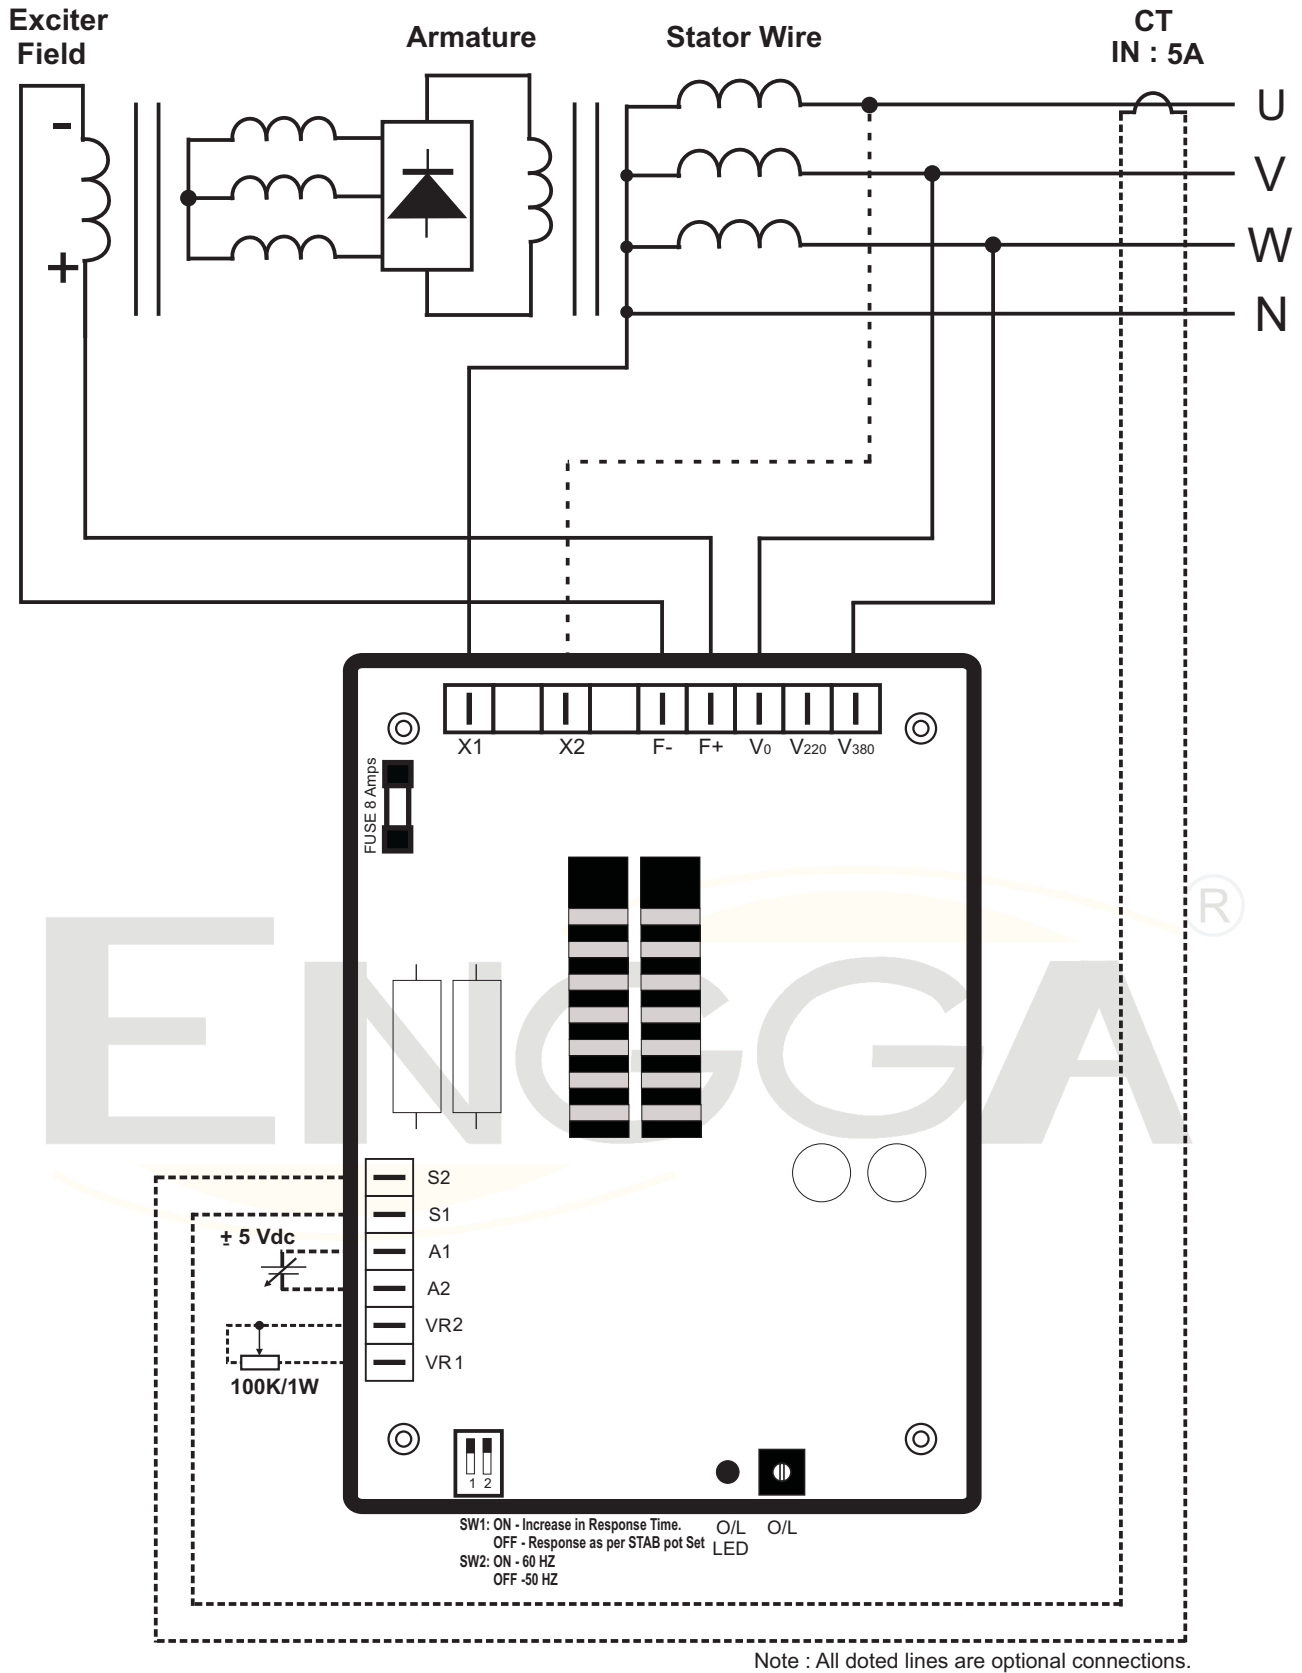

Figure 3. Connection Diagram for 400 Vac Operation
The sensing should be connected "Line to Line" from generator output. Refer Figure 3 & 4.
**3. Power Input:** AVR power input is between X1 &  $V_0$ . For **400 Vac system** X1 is connected to Neutral of generator &  $V_0$  to V Phase of generator. For **220 Vac system**, X1 is connected to U Phase &  $V_0$  to V Phase of generator. Refer to Figure 3 & 4.
If an external voltage adjust control is being used, connect a 100 K / 1 watt potentiometer to terminals **VR1** and **VR2** as shown in Figure 3 & 4. If not in use then let VR1 & VR2 left open.